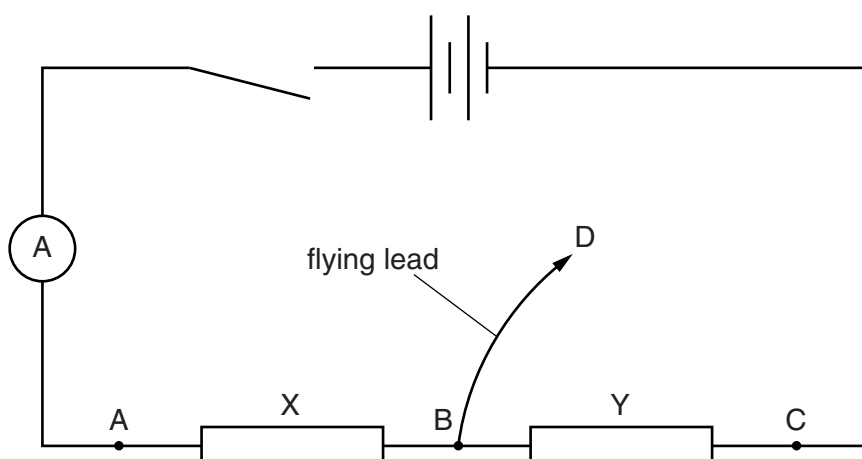

Fig. 3.1
2. The Supervisor should set up the apparatus as shown in Fig. 3.1. The terminals A, B, C and D should be clearly labelled.
4. At the changeover, the apparatus should be restored to its original state as in Fig. 3.1, disconnecting the flying lead from end D of the circuit. If cells are used, they should be checked, and replaced if necessary.